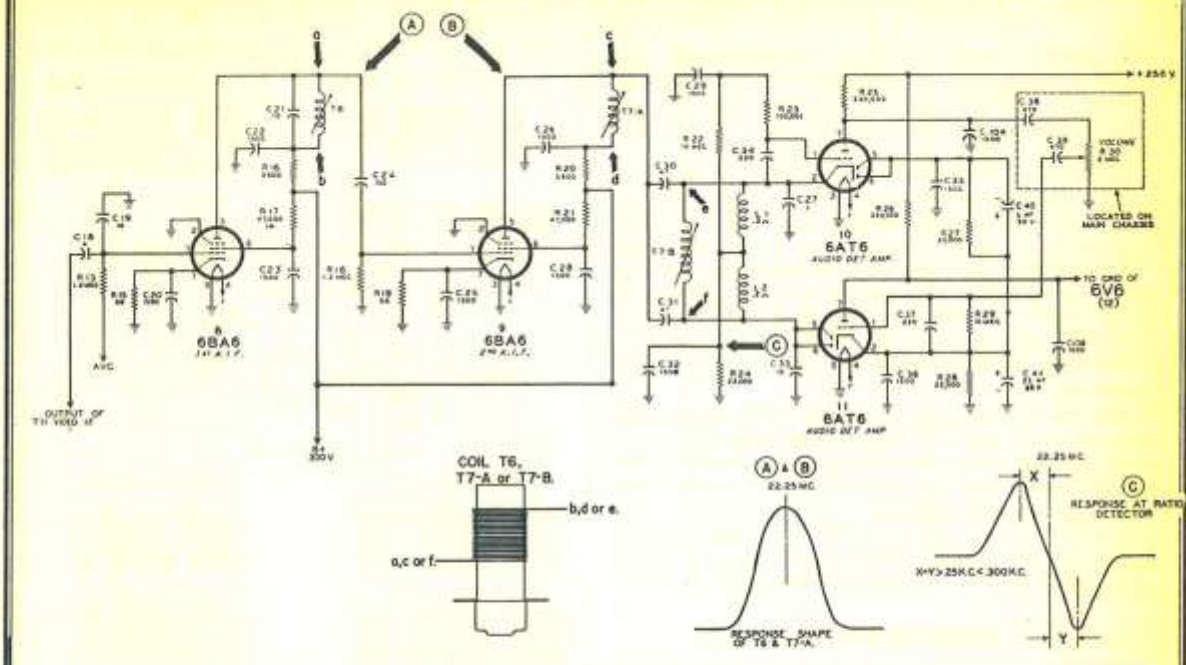

Figure 9. Audio I-F Section
The audio i-f sub-chassis assembly combines the first and second audio i-f amplifiers and the audio detector amplifier, using single-tuned i-f coils peaked at $22\frac{1}{4}$ megacycles with an FM ratio detector. The first and second audio i-f amplifiers make use of type 6BA6 tubes (8 and 9 in figure 9), with the first audio i-f tube AVC-controlled. The secondary winding of coil T11 is connected to coupling capacitor C18 at the grid of the first audio i-f tube through a twisted pair. Capacitor C18, combined with capacitor C19, forms a voltage-dividing network, lowering the effect of regeneration created by the length of the twisted pair.
The audio detector-amplifier tubes (10 and 11 in figure 9) are duo-diode-triode type 6AT6's, serving both as an FM ratio detector and as two stages of audio amplification. The diode currents of the ratio detector portion of the 6AT6 tubes develop the FM audio voltage across resistor R24 with capacitor C32 by-passing the audio i-f frequency. Cathode current of the triode section of the 6AT6 tube (10) also passes through resistor R24, placing a d-c voltage drop in series with